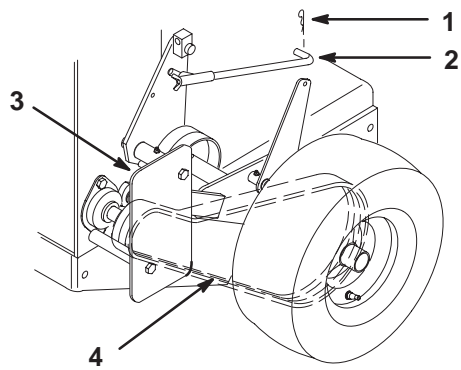

Figure 46
1. Remove hairpin cotter securing brake rod to brake arm to relax belt idler tension (Fig. 46).
2. Remove bottom and loosen top bolts of shield to rotate for belt clearance (Fig. 46).
3. Lift belt past idler and off drive pulley (Fig. 46).
6. Secure shield with previously removed bolt and tighten bolts (Fig. 46).
7. Secure brake rod to brake arm with hairpin cotter (Fig. 46).